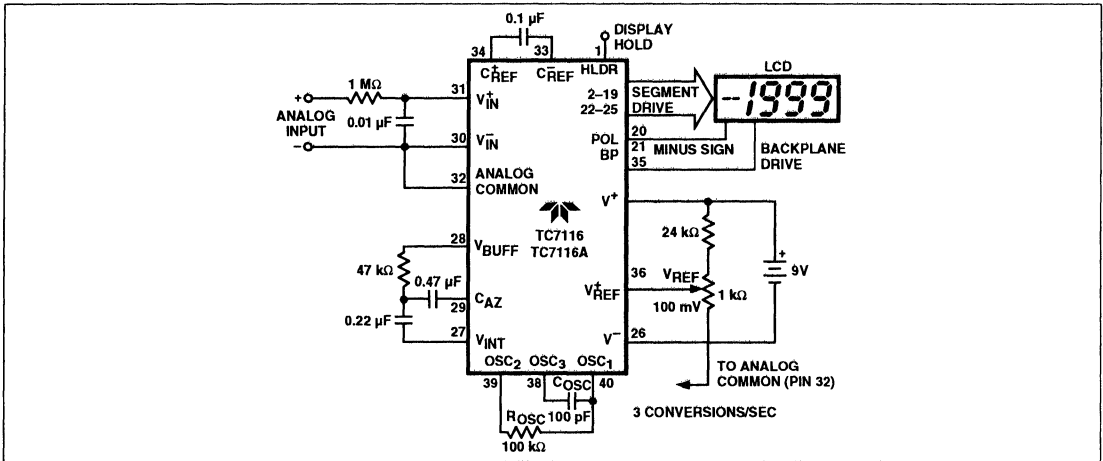
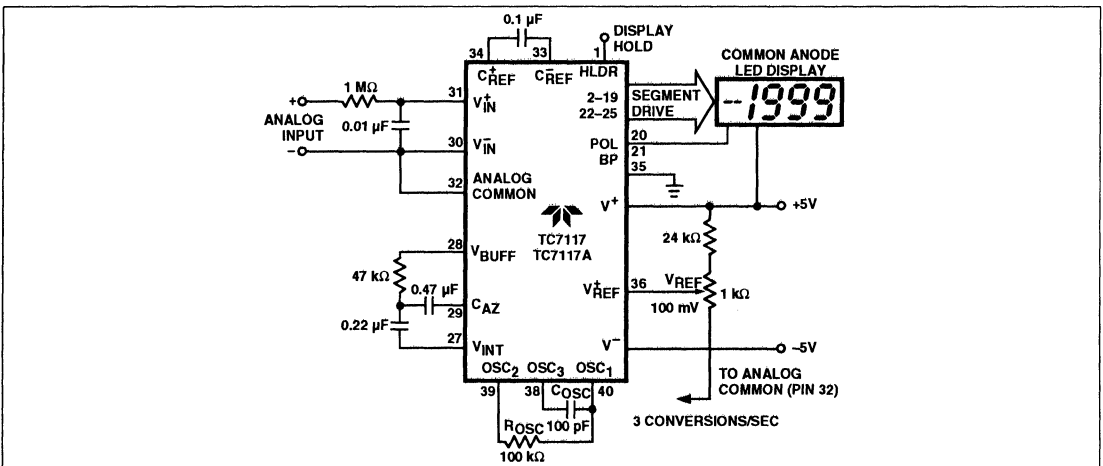

Figure 1 Typical TC7116/TC7116A Operating Circuit
Figure 2 Typical TC7117/TC7117A Operating Circuit
- Unless otherwise noted, specifications apply at $T_A = +25^\circ C$, $f_{CLOCK} = 48 \text{ kHz}$. TC7116/TC7116A are tested in the circuit of Figure 1. TC7117/TC7117A are tested in the circuit of Figure 2.